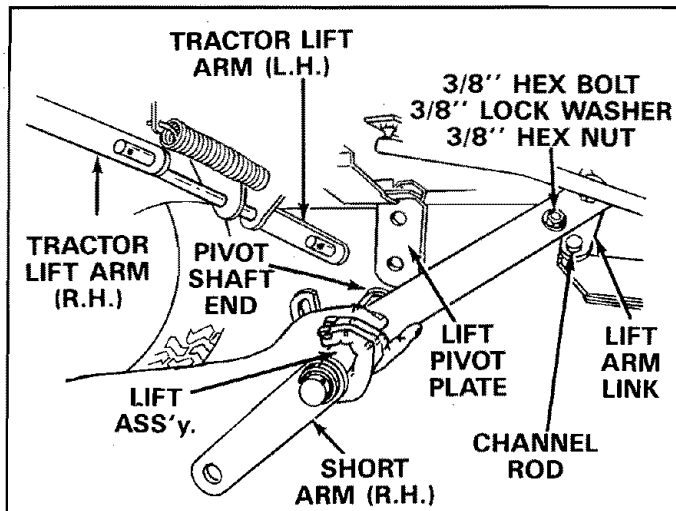
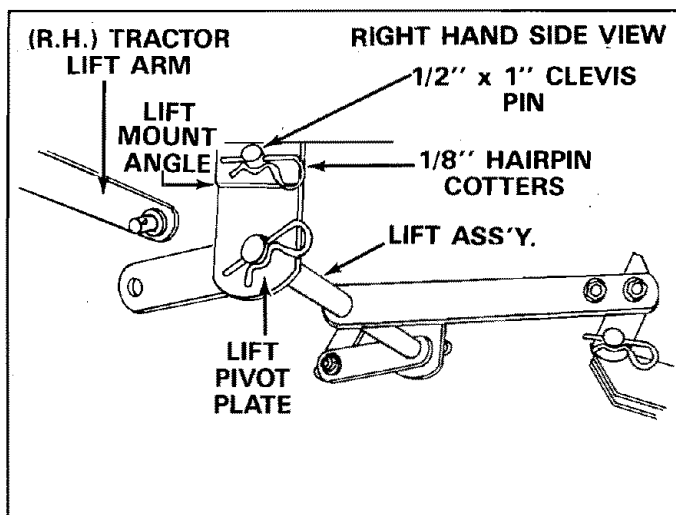

FIGURE 18
FIGURE 19
20. Assemble one 3/8" x 3/4" hex bolt from inside, through second hole from end of long arm. Secure with one 3/8" lock washer and one 3/8" hex nut on outside. This bolt is used as a limit stop for the lift arm link. See figure 18.
22. Assemble lift arm link (lift assembly) over channel rod and insert pivot shaft end (from right hand side of tractor) into hole in left hand lift pivot plate. See figure 18. Secure lift arm link to channel rod with 1/8" (large) hairpin cotter. See figure 19.
23. Assemble lift pivot plate over right hand end of pivot shaft, as shown in figure 19, and secure with 1/8" hairpin cotters (large) in small holes near each end of pivot shaft.